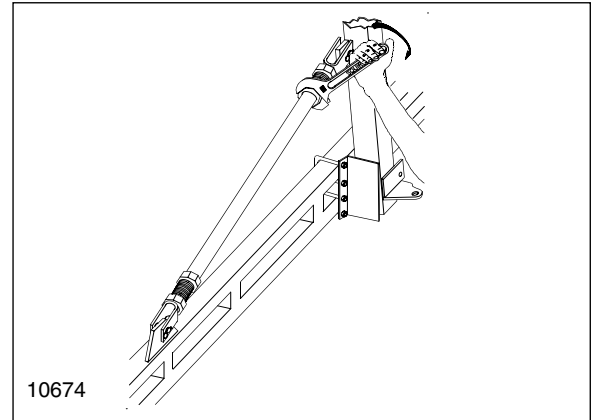
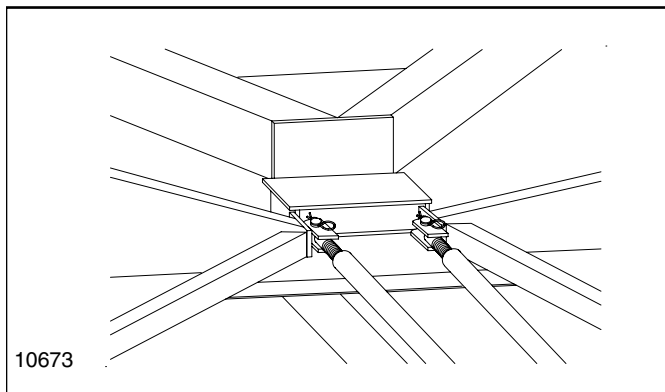

Figure 14
Figure 13
3. When folding the drill, the drill transport stabilizer frame should line up with the nest on the front of the main frame, Figure 13, Transport Stabilizers In Road Position. If they scrape the wing on the tongue, the boxes can be raised or lowered by adjusting the wing adjustment turnbuckle, Figure 14, Wing Adjustment Turnbuckle.